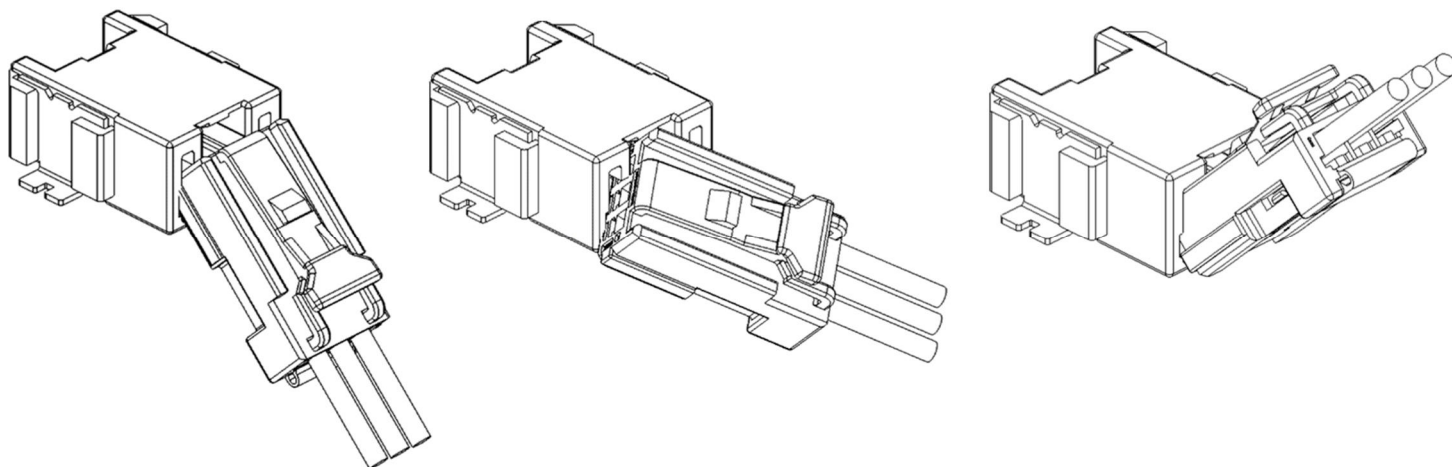

Fig 49. Mating orientations (not advisable)
- ① Only mate the connector in the direction instructed above. Do not forcefully mate in any orientation shown in Fig.49.